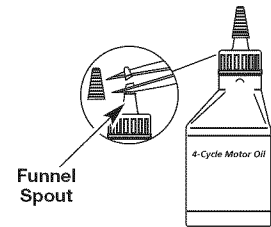

Fig. 6
The unit is supplied with one 3.04 fl.oz. (90 ml) bottle of SAE 30 SF, SG, SH oil (Fig. 6).
1. Unscrew the top of the bottle of oil and remove the paper seal covering the opening. Replace the top. Next, cut the tip of the funnel spout (Fig. 6).